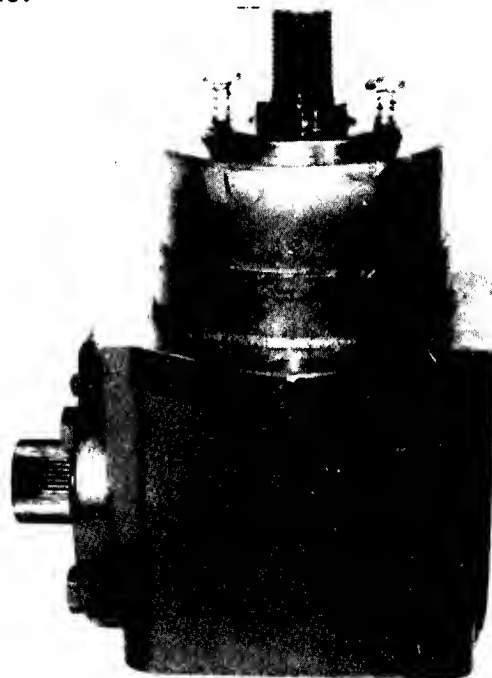

FIG. 4.16-GEARBOX ASSEMBLY
3. Install two metal screws into these holes. Fig. 4.16.